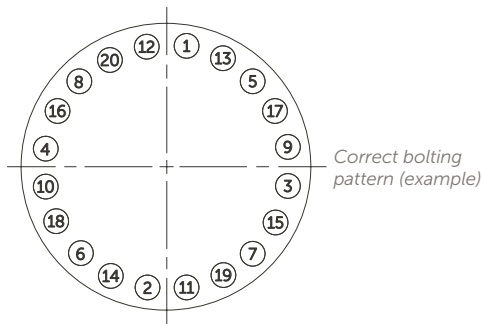

Figure 23.
2. Follow the bolting pattern shown in Figure 23.